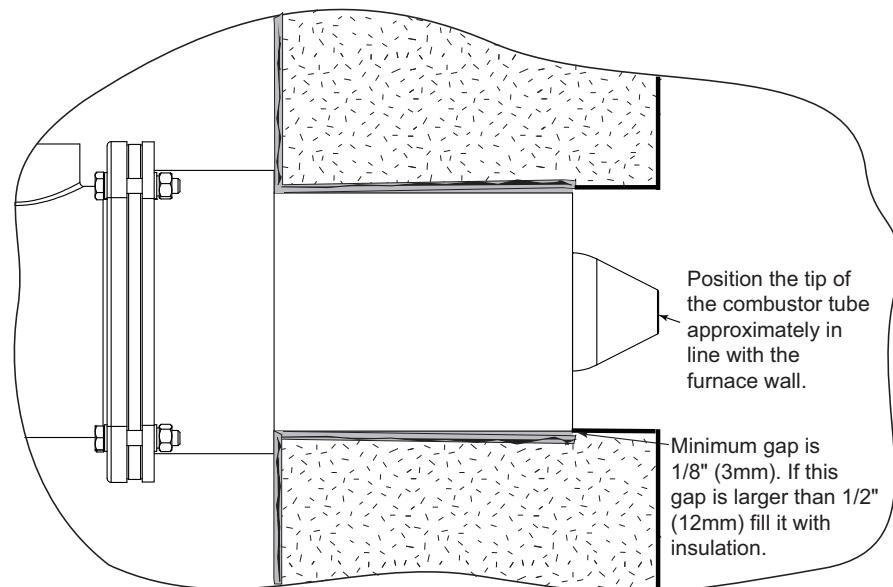

Figure 3.1 Burner Position Verification
- 6. Complete preparation inside the furnace. See Figure 3.1